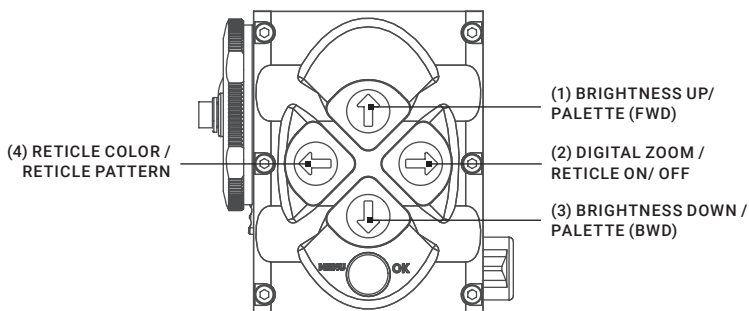

FIGURE 2-25. SETTING BUTTONS
10. Using the buttons on the control panel (Figure 2-25), configure the Anaconda for your specific situation.